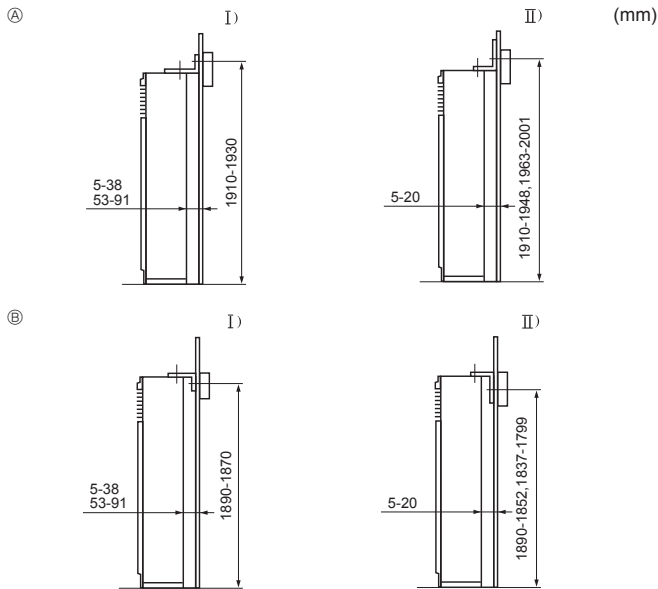

Fig. 3-3
① Tip-over prevention bracket
The tip-over prevention bracket ① is set on the top surface of the unit. Remove the tapping screws Ⓐ, and then reinstall the bracket, as shown in the illustration. For the proper installation distances, see Fig. 3-3.
3.3. Mounting the tip-over prevention bracket (Fig. 3-3)